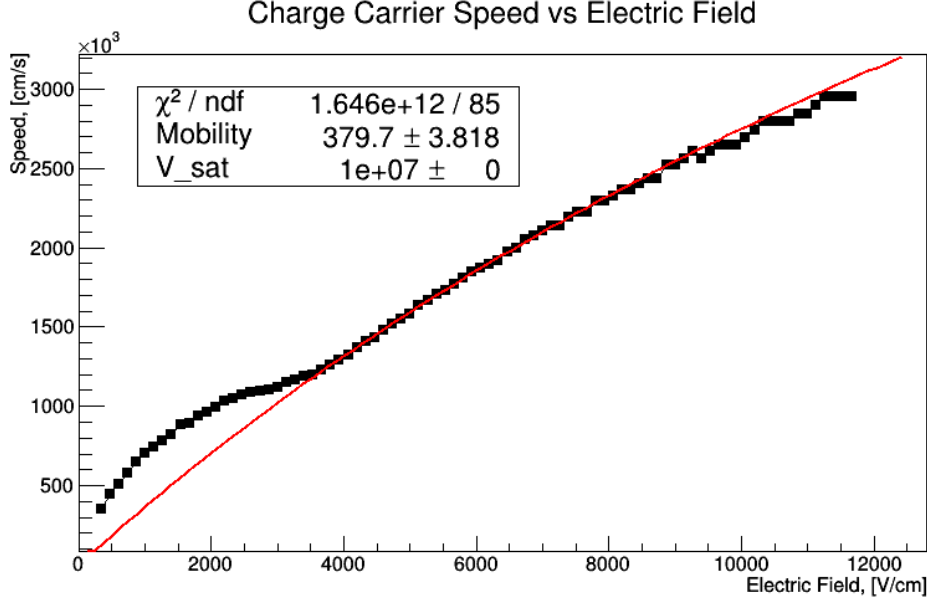

Figure 8: The average hole drift velocity for p-type sensor from Particulars.
The average hole drift velocity through the sensor is given by $v_h = \frac{W}{t_{transit}}$, where $t_{transit}$ is the duration of the signal, W is the thickness of the sensor. For the sample sensor from Particulars the average hole drift velocity is shown in Figure 8. The fit function is given by (1), according to the (2), where v_{sat} is the holes saturation velocity, μ_0 is the low-field mobility, E is the electric field. The fit results in a value of $379.7 \frac{cm^2}{Vs}$, with assumption of detector thickness $300 \mu m$ and saturation velocity in silicon of $v_{sat} = 1 \times 10^7 \frac{cm}{s}$.